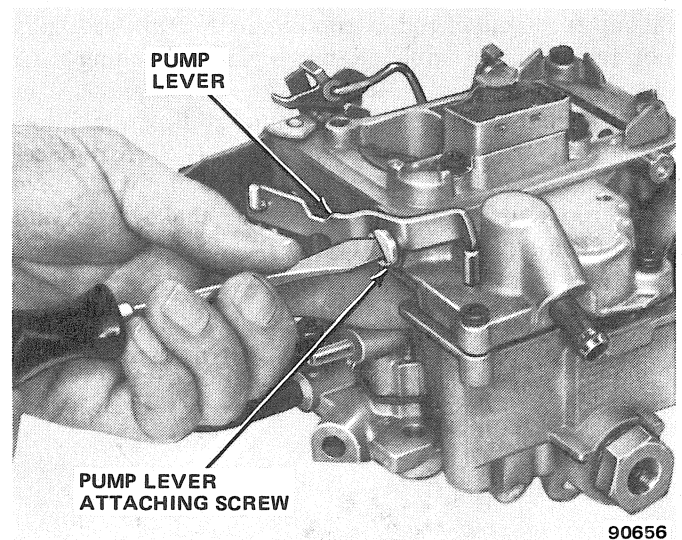

Fig. 1J-67 Carburetor Model E2SE—Pump Lever Screw Removal
(2) If clip is **not** used to secure pump rod (clipless design), remove pump lever retaining screw and washer from air horn (fig. 1J-67). Rotate pump lever to remove from pump rod.